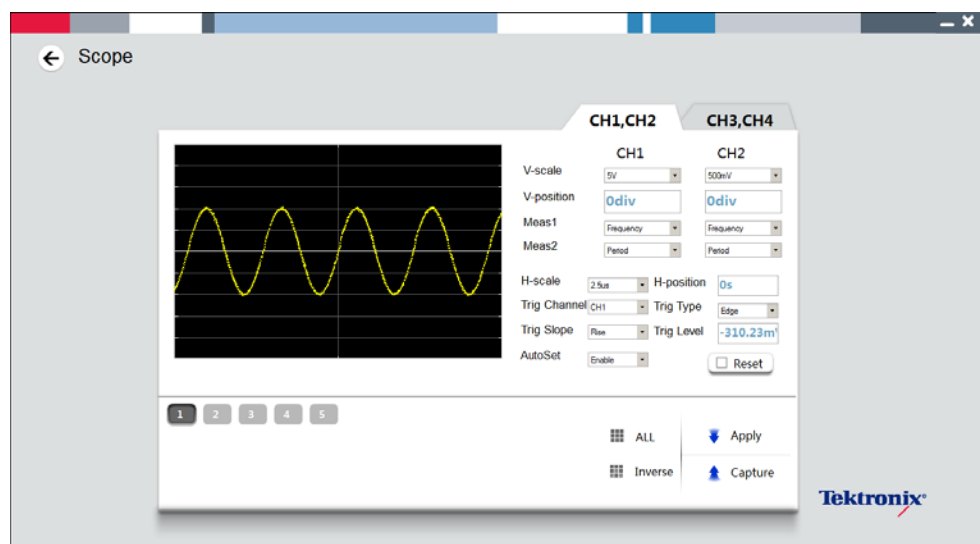

Figure 75: Oscilloscope configuration screen (configuration captured)
1. On the oscilloscope configuration screen, a waveform is displayed only after the instrument configuration of a bench is captured (see Figure 75).